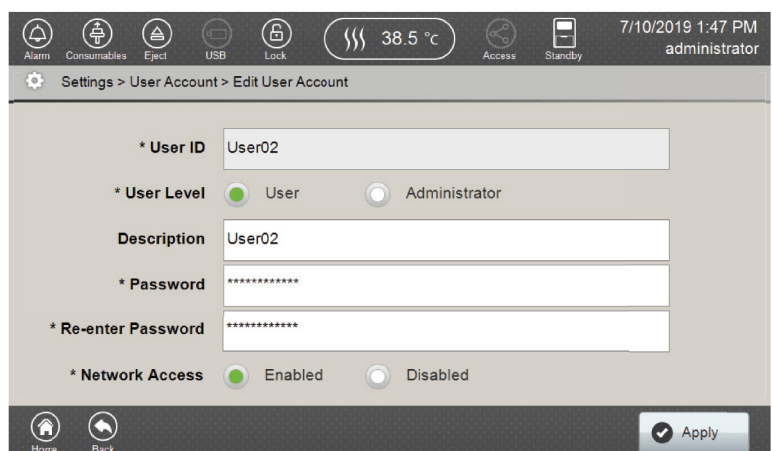

Figure 167. 'Edit User Account' screen.
3. Select the user account from the list, and then select **Edit** in the footer to open the 'Edit User Account' screen (Figure 167).